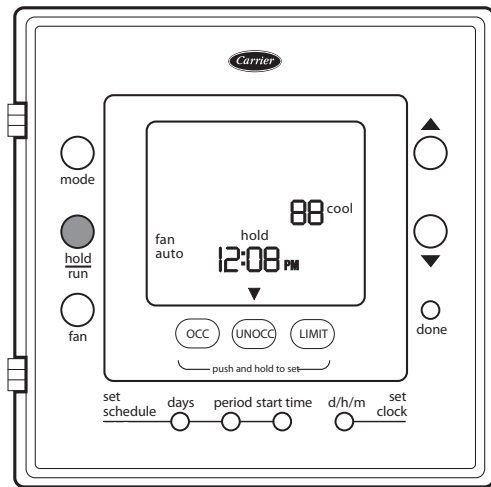

Fig. 4 — Holding Temperature Set Points
2. Press the **hold** button (see Fig. 4). This will hold the current comfort setting and the program schedule will be ignored as long as the hold remains active.